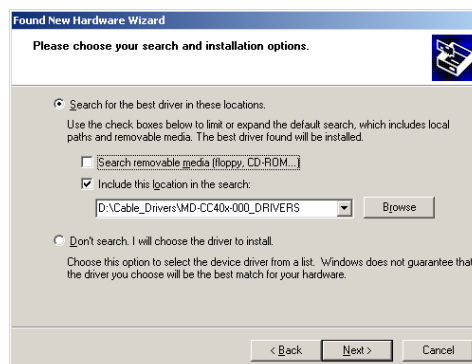

Figure F.10: Hardware Update Wizard Screen 3
- (c) Click Next (Figure F.10).